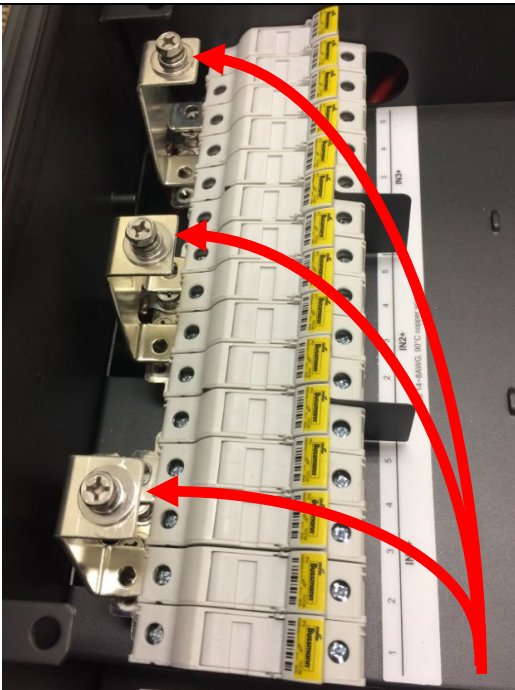
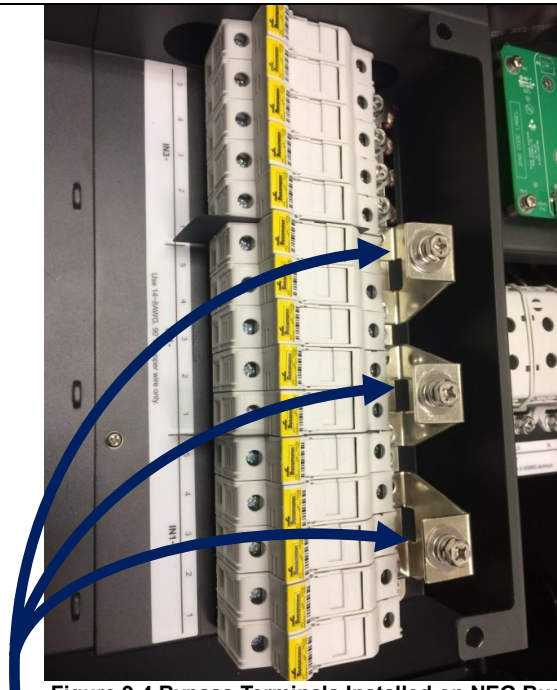

Figure 9-3 Bypass Terminals Installed on POS Input
Figure 9-4 Bypass Terminals Installed on NEG Bus
4. Use a No. 2 Phillips head screwdriver to install the Bypass Terminals on each bus by fastening each terminal with the M4 screws. Torque value of 14 in-lbs (1.6 N.m) (Figure 9-3 and Figure 9-4).
5. Use a No. 10 wrench to fasten the three pairs of DC input cables to each of the Bypass Terminals at IN1+, IN2+, IN3+ (Figure 9-3) and IN1-, IN2-, IN3- (Figure 9-4) with the M6 screws. Torque value of 50 in-lbs (6.0N.m.).